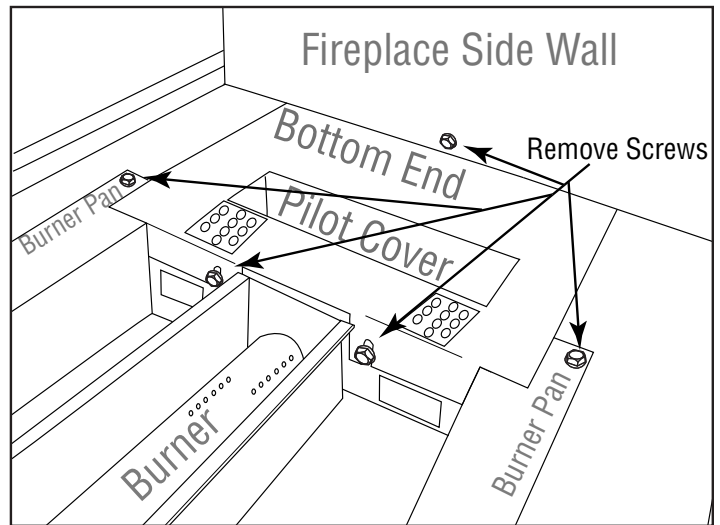

Figure 2 - Removal of burner pan screws.
RECOMMENDATION: Once the gas line is established it is recommended to remove the burner pan from the firebox until the fireplace is in the final stages and ready for the burner installation. See Burner Pan Removal in **Figure 2.**
The burner pan is secured in the fireplace with five (5) screws on each end. Two (2) screws are located on the outer edge of the burner pan and three (3) screws are located securing the bottom end (see **Figure 2**). Remove all five (5) screws on each end to lift the burner pan up. Use **Figure 22 on Page 17** as a reference to remove the bottom end.